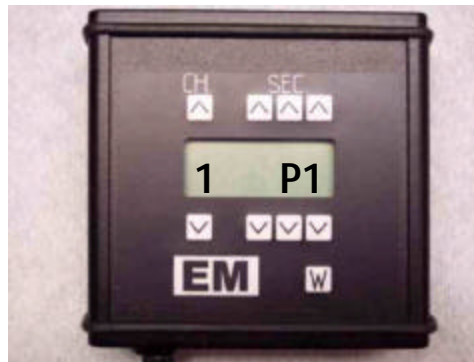

Fig.6
4. If you want the selected channel to be a Pressure activated channel choose P1 or P2. You will enter the Pressure values later. (Fig. 6)
6. As you change the mode, the display begins to blink. This indicates that you have not saved the value. Press the “W” button to save the mode value. (Fig. 6)